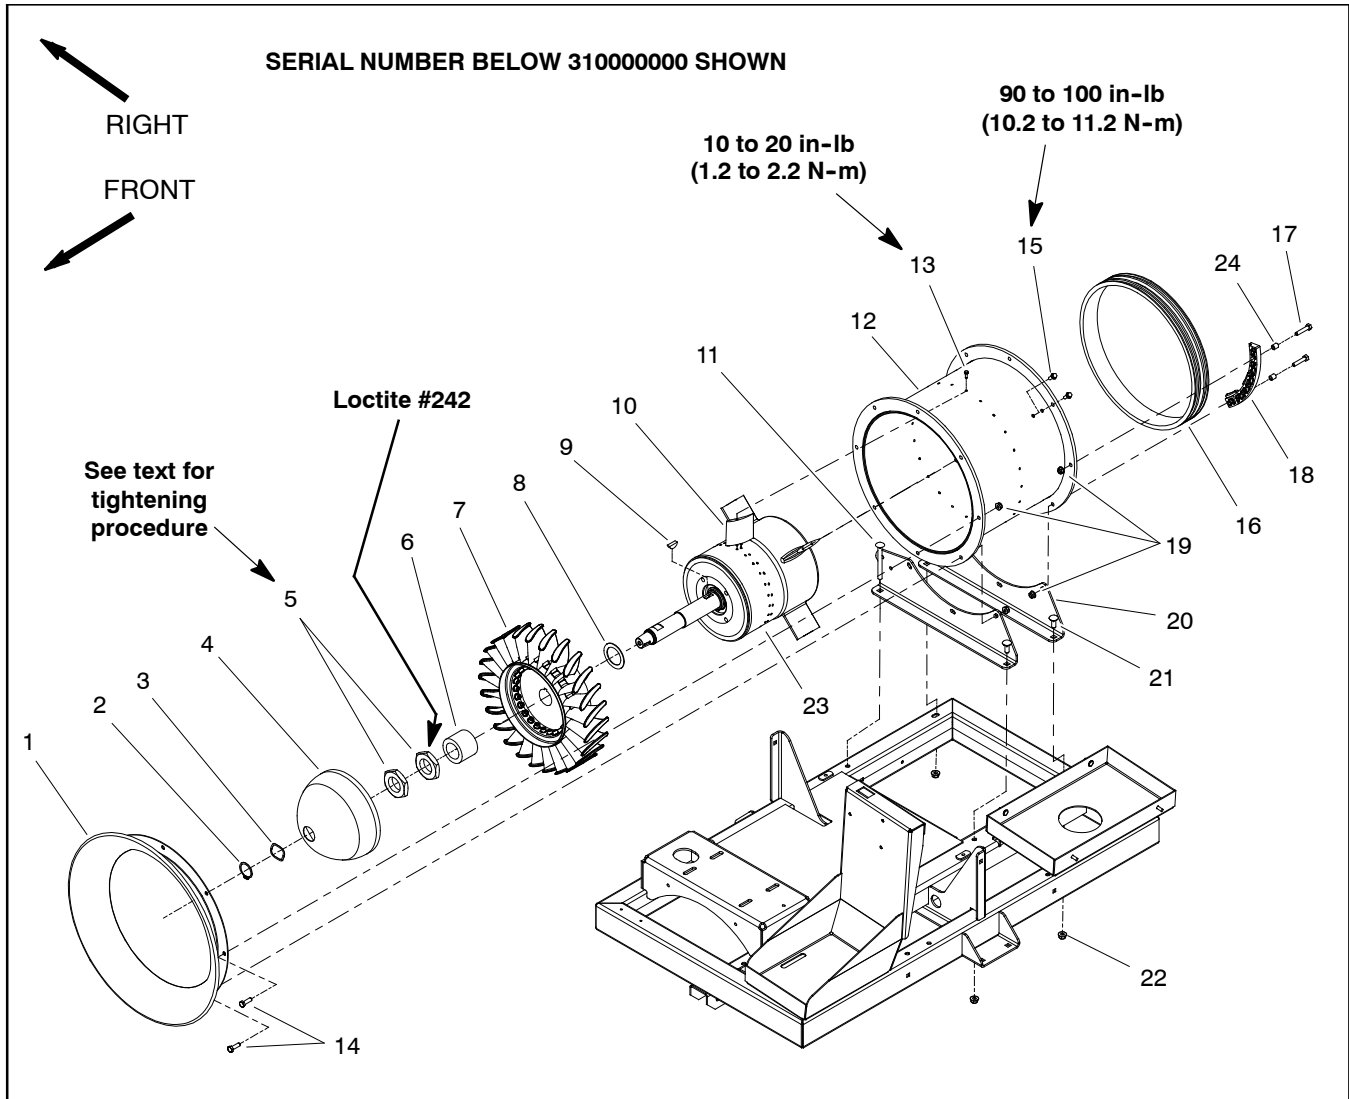
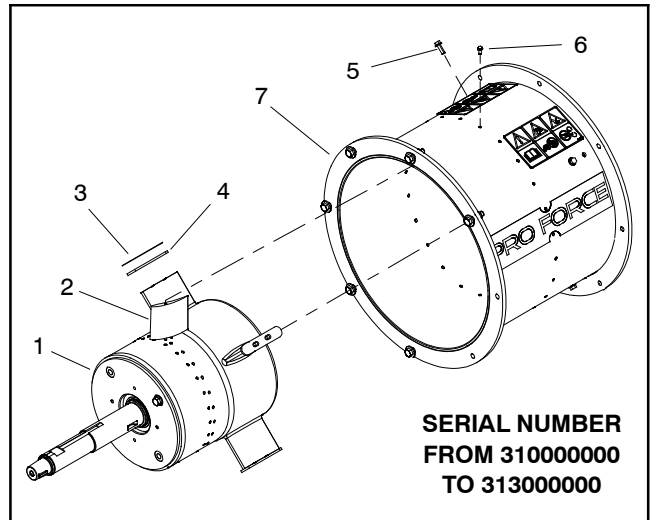
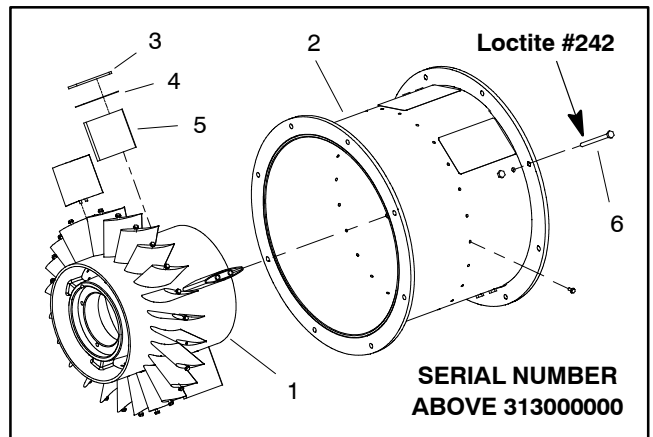
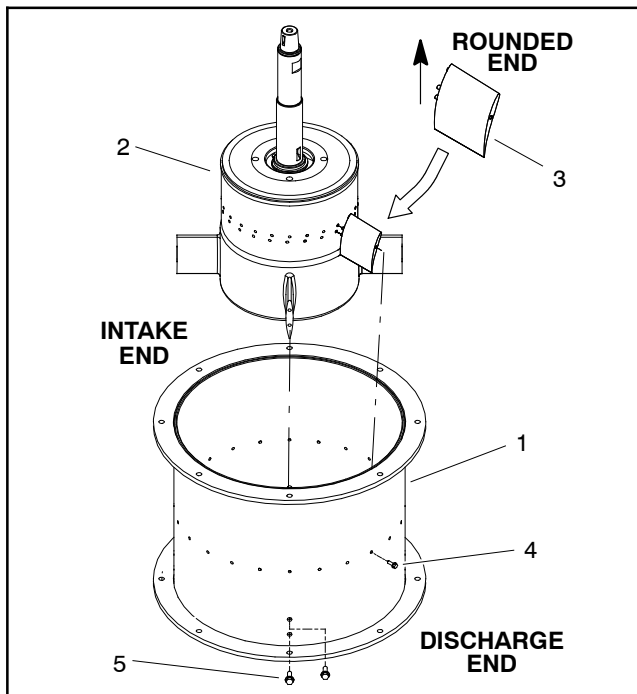

Figure 13
Figure 14
Figure 15
Figure 17
NOTE: ProForce Blowers have used three (3) methods of securing the inner and outer housings. On machines with serial number below 310000000 (Fig. 13), the inner housing is attached directly to the outer housing. On machines with serial number from 310000000 to 313000000, a fin spacer and possibly additional thin spacers exist between the inner housing flanges and the outer housing (Fig. 14). Machines with serial number above 313000000 use four (4) fin mounts with fin spacers and possibly additional thin spacers that are secured between inner housing and outer housing (Fig. 15). Refer to correct illustration when removing and installing inner and outer housings.
Removal (Fig. 13)
8. Lift fan housing assembly from machine and set on workbench with rotor shaft pointing straight up (Fig. 17).
13.If equipped (machines with serial numbers above 310000000), locate and retrieve fin mounts, fin spacers and thin spacers from between inner housing and outer housing (Fig. 14 or 15). Note location of these components for assembly purposes.
Installation (Fig. 13)
3. On machines with serial numbers above 310000000, install fin mounts, fin spacers and thin spacers (if equipped) between inner housing and outer housing (Fig. 14 or 15).
4. On machines with serial numbers above 313000000 (Fig. 15), apply Loctite #242 (or equivalent) to threads of screws used to secure inner and outer housings.
5. Make sure that holes in inner housing flanges align with outer housing holes. Install and finger tighten eight (8) screws (item 15) into threads of inner housing flanges. Do not fully tighten screws at this time.
A. Position a vane between inner and outer housing. Make sure that rounded end of vane is orientated toward rotor shaft (Fig. 17).
C. Install and finger tighten flange head screw (item 12) into threads of vane. Do not fully tighten screw at this time.
D. Repeat process for all twenty-four (24) vanes.